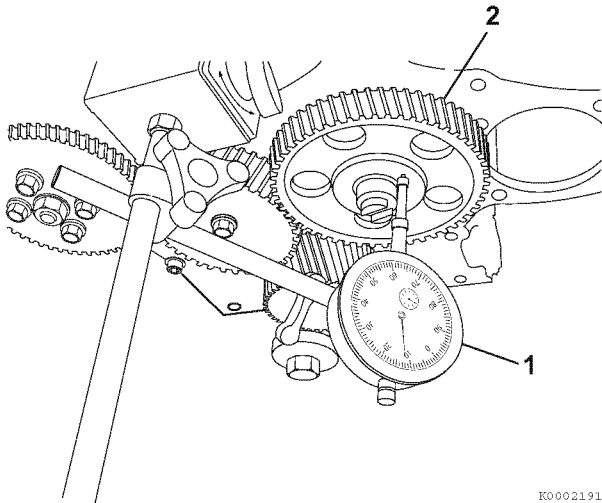

Figure 6-46
- **Method A:** Install a dial indicator (Figure 6-46, (1)) on the cylinder block. Move the camshaft and gear (Figure 6-46, (2)) in and out to measure the end play. Record the measurement. See *Camshaft* on page 6-6 for the service limit.